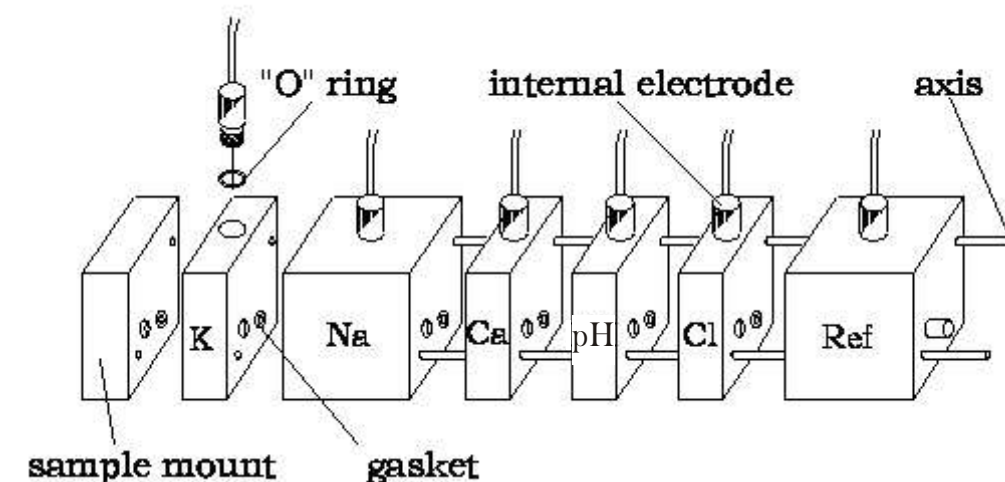

Figure 2
- 7) **Electrode installation must be follow figure 2.**